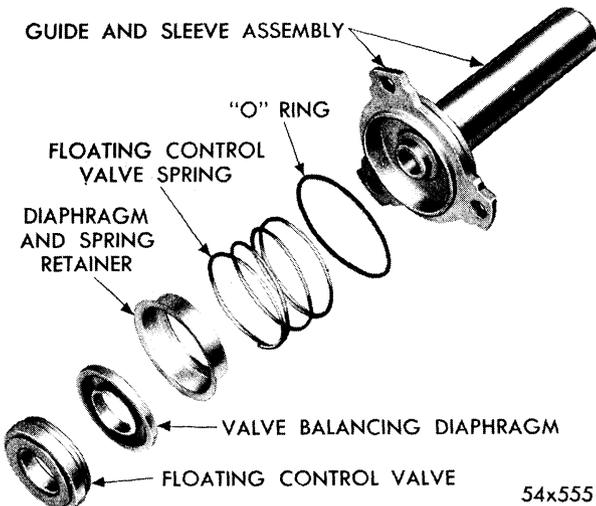

Fig. 78—Guide and Sleeve Assembly (Disassembled View)
- (4) From guide assembly remove and discard floating control valve assembly and valve balancing diaphragm, but do not discard spring, or spring retainer. (See Fig. 78.)
- (5) With power piston assembly still in holding fixture, lift out air valve seat assembly and discard.
Refer to Figure 78 and proceed as follows: